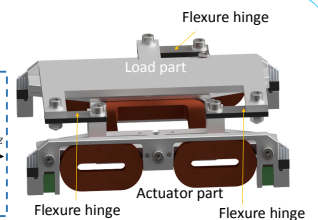

Figure 3: Armature design
- The springs are build as flexure hinges (Figure 3).